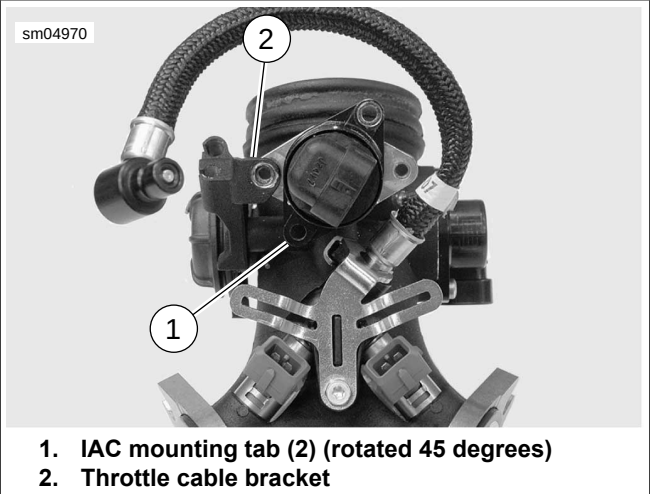

Figure 4-55. Removing/Installing IAC: XR 1200X
4. Using a six-point socket (not a Torx wrench), remove two screws (2) in the following order:
5. See Figure 4-55. Grasp IAC and rotate counterclockwise until IAC mounting tab (1) clears throttle cable bracket (2).
4. See Figure 4-55. Rotate IAC approximately 45 degrees counterclockwise so IAC mounting tab will clear throttle cable bracket (2) when IAC is installed.